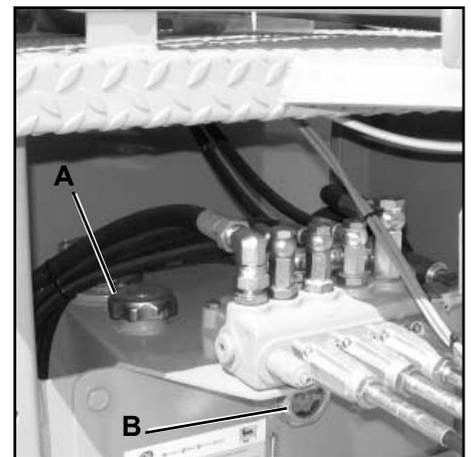

Fig. 6
- Check the hydraulic oil level in its tank (B - Fig. 6).